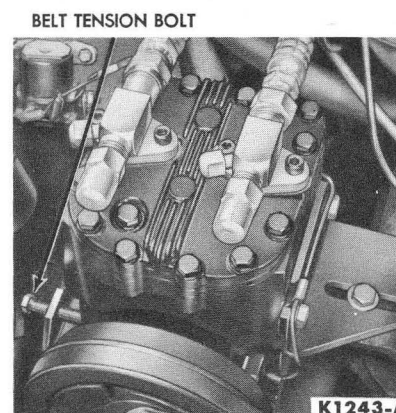

FIG. 20—Belt Replacement
Isolate the compressor and disconnect the two service valves and hoses from the compressor. Energize the clutch and loosen and remove the clutch mounting bolt. Install a $\frac{5}{8}$ -11 bolt in the clutch drive shaft hole. With the clutch still energized, tighten the bolt to loosen the clutch from the shaft. Disconnect the clutch wire at the bullet connector. Loosen the compressor mounting bolts and the belt tension adjusting bolt (Fig. 20). Slide the compressor toward the center of the engine, remove the drive belt and the clutch, and then remove the mounting bolts and the compressor. With the compressor on the work bench, remove the key from the shaft.
Install the service valves on the compressor (Fig. 20), using new gaskets. Tighten the service valve bolts to 10-12 ft-lbs. Leak test the compressor, then evacuate it and connect it back into the system.
mounting bolts, and the belt tension adjusting bolt (Fig. 20).
3. Place the new belt in position, slide the compressor toward the outside of the car, tighten the belt tension bolt (Fig. 20), and tighten the five mounting bolts.